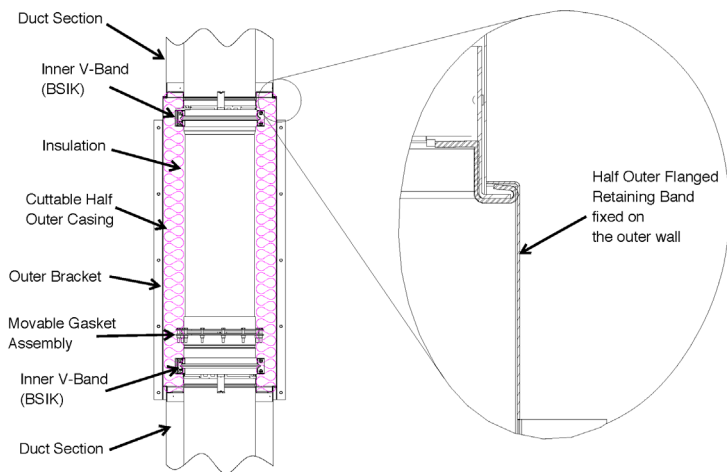

Figure 19 - Installation of Adjustable Length Step 6
6. Install the outer pipe casing insulation (and insulation strip Models CIX1, CIX2, CIX4, and CIX3Z) so the side with the bracket goes on the upstream section. See Figure 19.